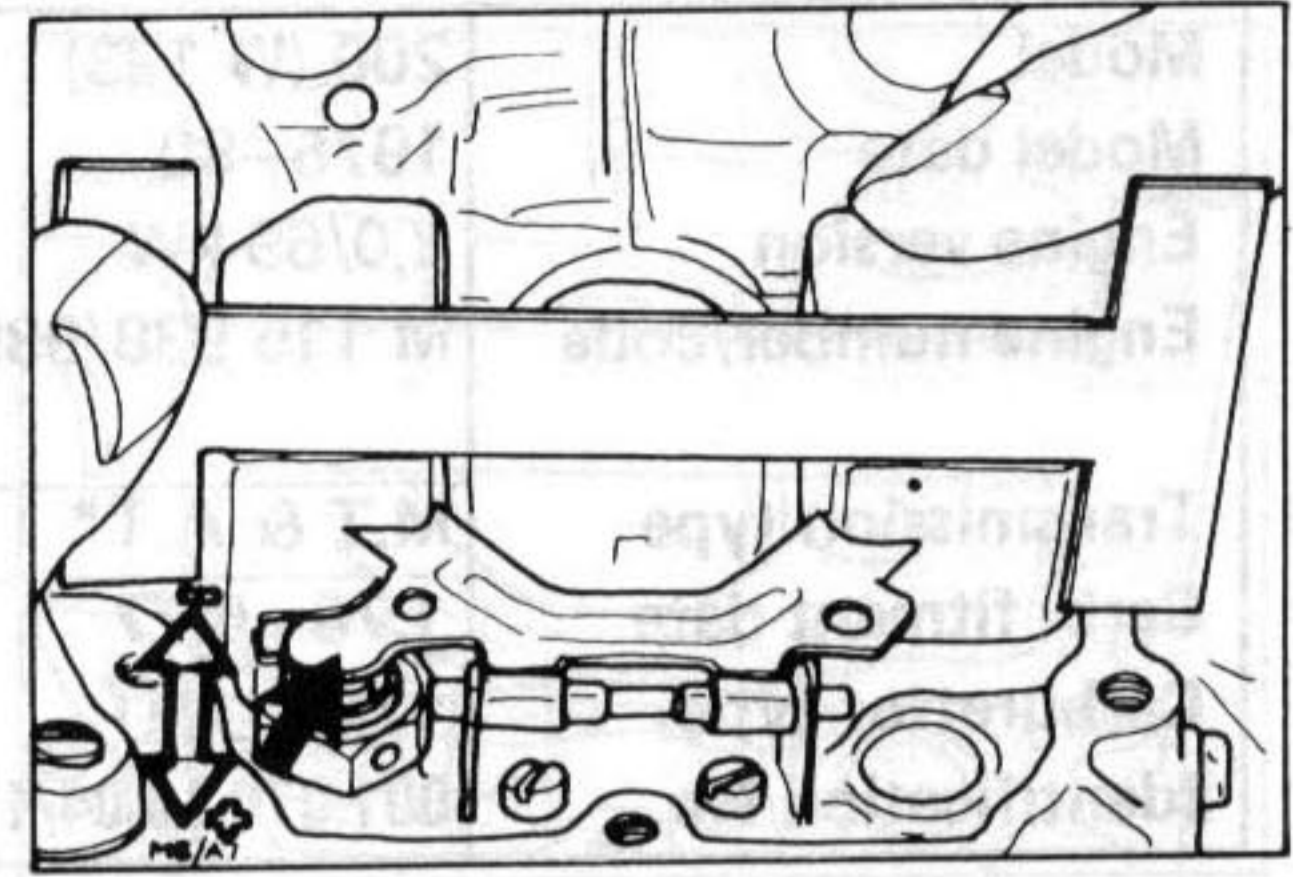

Fig. 8 Float level adjustment
- e) Measure distance from highest point of each float to housing surface (Fig. 8).
- h) Bend tab (arrowed) at float needle valve as required to achieve correct setting (Fig. 8).